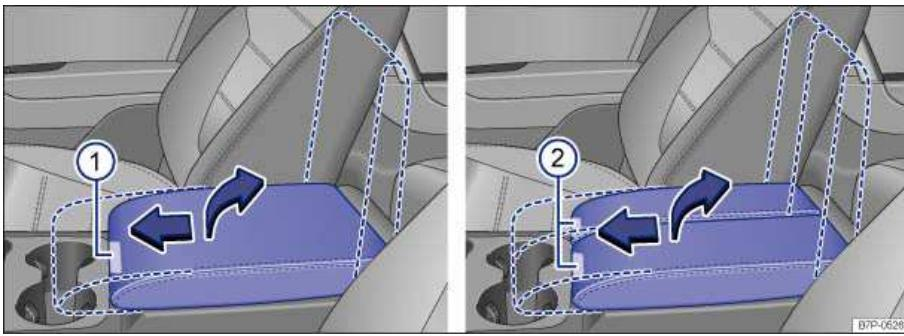

Fig. 120 In the front center armrest: Storage compartment.
To *slide* (if applicable), press ⇒ fig. 120 (1) or (2) move the center armrest in the direction of the arrow ⇒ fig. 120.